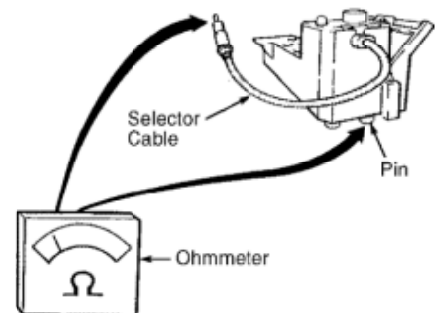

Fig. 7: Checking Resistance Between Selector Cable & Pin
3) Use an ohmmeter and measure resistance between selector cable and pin under diagnostic button. See Fig. 7. Infinite resistance should be present with diagnostic button up. With diagnostic button down, zero ohms should be present.